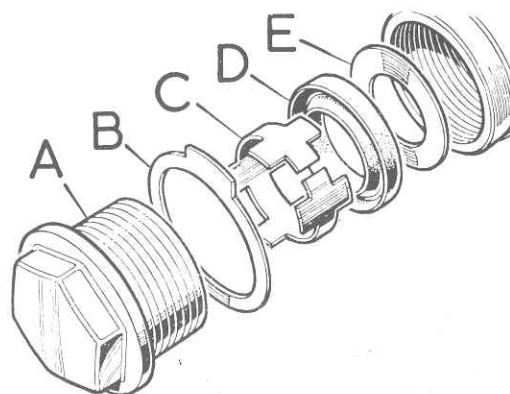

Fig. 9.29. End cap assembly (CB type)
- 4 Turning to the other end of the cylinder unscrew the end cap and remove the recuperating seal assembly (Fig. 9.29).